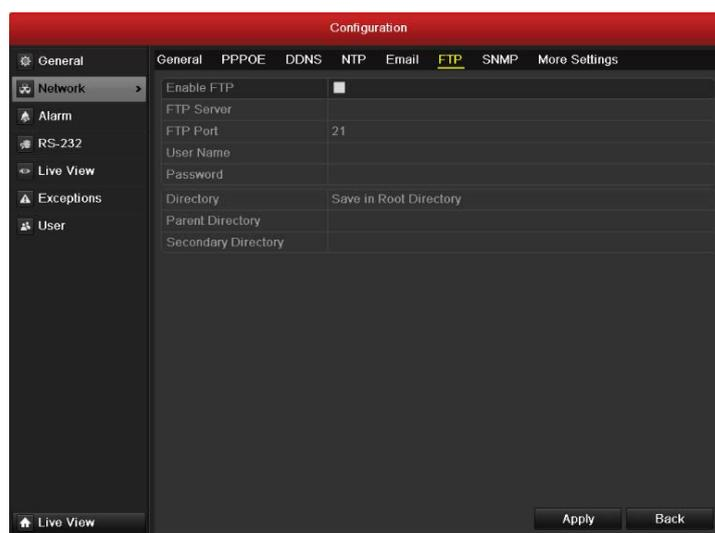

Figure 9.10 FTP Settings Interface
2. Select the **FTP** tab to enter the FTP Settings interface, as shown in Figure 9.10.